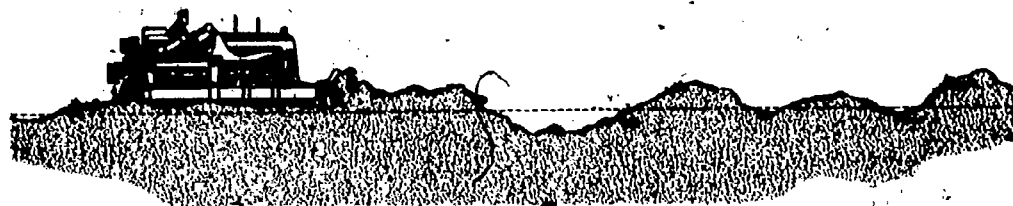

Fig 3-2. Sketch of a proposed road.
f. Knowing the finished job. Before beginning an earthmoving job, you should visualize its purpose and how it will appear when finished; otherwise, you will be proceeding without a plan and working without an aim. To help you visualize how a finished road or airfield will look, you will have grade stakes (discussed later) to serve as guides. Often, a rough sketch or blueprint of the job will be available, or you may find it helpful to prepare a rough sketch of your own to help visualize the job (fig 3-2). Such a sketch should show which sections are to be cut, which are to be filled, and the level of the finished job in comparison with the terrain at the beginning of the operation. Learn to estimate height and distance. This will help to visualize how the job will look when it is finished. It will also aid in locating grade stakes, markers, and the grade you have cut. For example, if you are to cut a pit 50 ft long and 4 ft deep, you should know about when the length and depth is right without having to get off and measure. You should be able to estimate how deep you must cut for what distance to get a full load. If a grade stake calls for .5 ft cut, you should be able to estimate a 6 in. cut and be close when the surveyors check the job. The more experience you have, the closer you can grade to the desired level, but you should be able to grade to within 2 in. on a 100 ft square area by estimating from grade stakes. In other words, the 100 ft square area should not have a place that is more than 2 in. from being level.